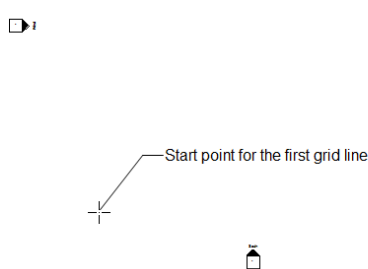

Figure 3-45 Specifying the start point of the first grid line
3. In this tab, ensure that the **Line** tool is invoked from the **Draw** panel. Next, move the cursor toward the lower left corner of the drawing area and then click to specify the start point of the first grid line; a grid line with temporary dimensions for angle emerges, refer to Figure 3-45 for location.